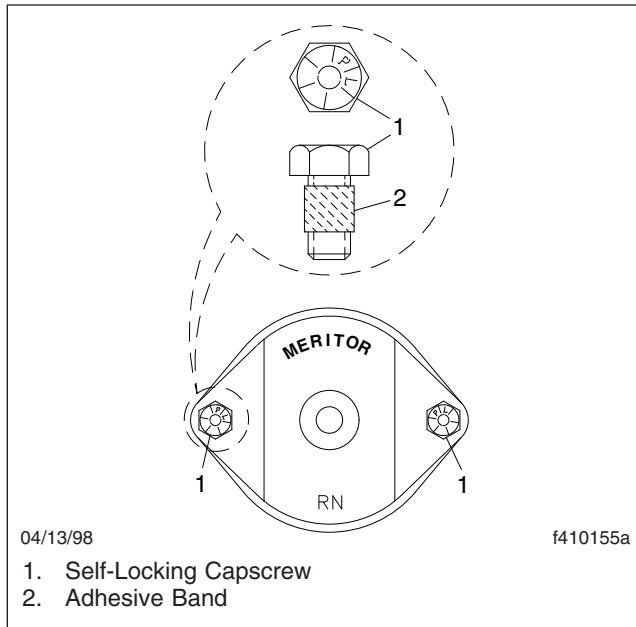

Fig. 10, Meritor U-Joint Fasteners for Full-Round Yokes
- 4.4 Install *new* bearing-cup-plate self-locking capscrews. See **Fig. 10**. Tighten the capscrews until all the parts are drawn down tight, with no gaps; do not tighten the capscrews to their final torque value.